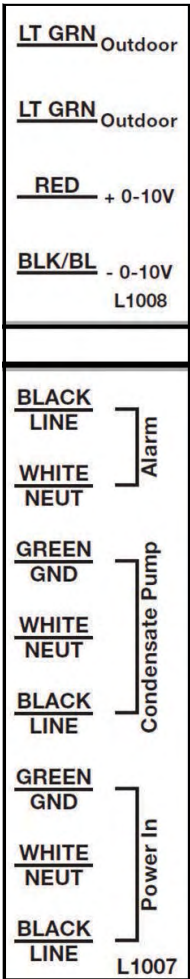

Figure 23 - Field Wiring
- 1. Connect a building management system or other auxiliary control signal to the terminals marked 0-10 VOLT + and 0-10 VOLT – in the electronics assembly (shown in Figure 23). Caution should be used to ensure that the 0-10 VOLT + connection does not become connected to ground.